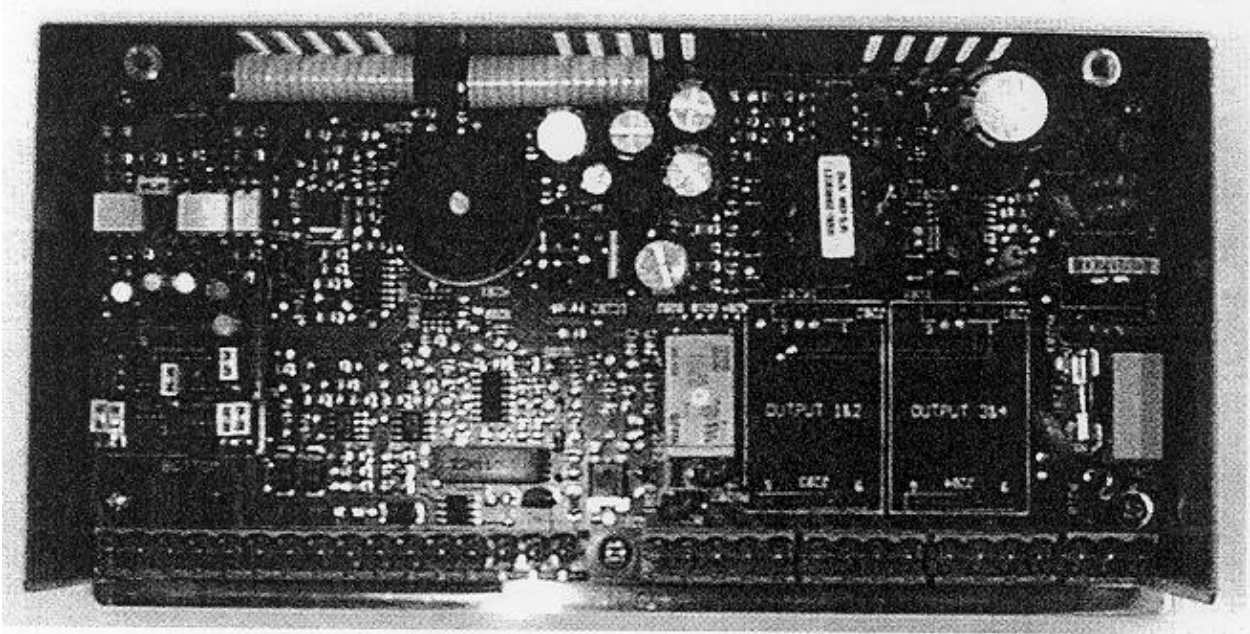

Figure 37: Controller rear view with Communications Card (left)
3. Looking into the back of the controller with the connector terminal strips at the bottom, install the communication card onto the two 5 pin headers on the rear circuit board. Be sure the jumper blocks on the communication card are positioned toward the bottom of the controller. See Figure 37: Controller rear view with Communications Card (left). Be sure the card is seated firmly onto the headers.